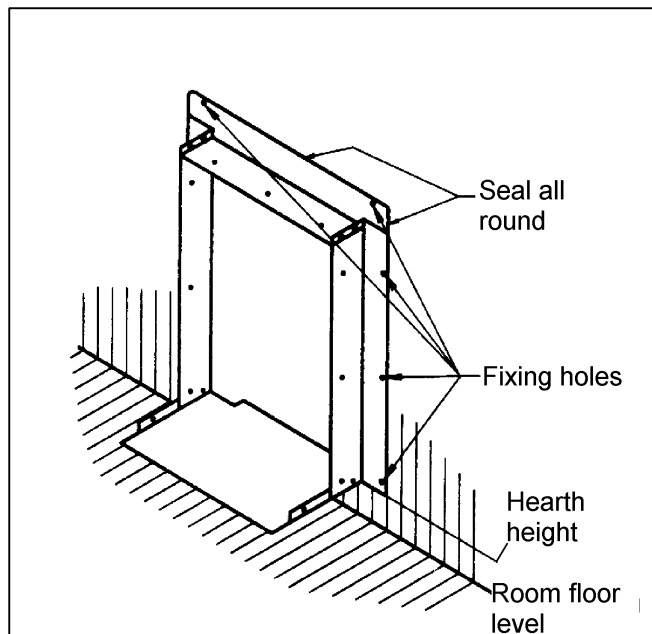

Figure 8 Rear unit installation
2. Place the rear unit in position against the fireplace opening. The bottom face of the floor panel must be at the height of the top surface of the hearth. Centralise the unit and support it if necessary (See figure 8).
5. Put the rear unit back in position and fix firmly with eight woodscrews. Seal all round the periphery of the unit with a suitable silicone sealant or some of the aluminium sealing tape supplied (See figure 8). ***Make sure enough tape is left for sealing the front unit to the rear - see section 4, Item 5.***